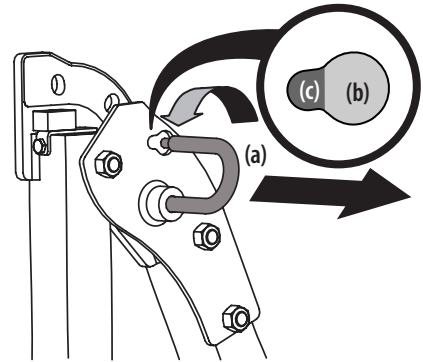

Figure 23
1. To change the position of the ROPS, pull slightly up/push forward on the upper ROPS to relieve any tension on the locking pin (a) and rotate the locking pin (a) from the LOCKED (b) position into the ADJUSTMENT (c) position. Repeat the procedure for the locking pin on the opposite side. See Figure 23.